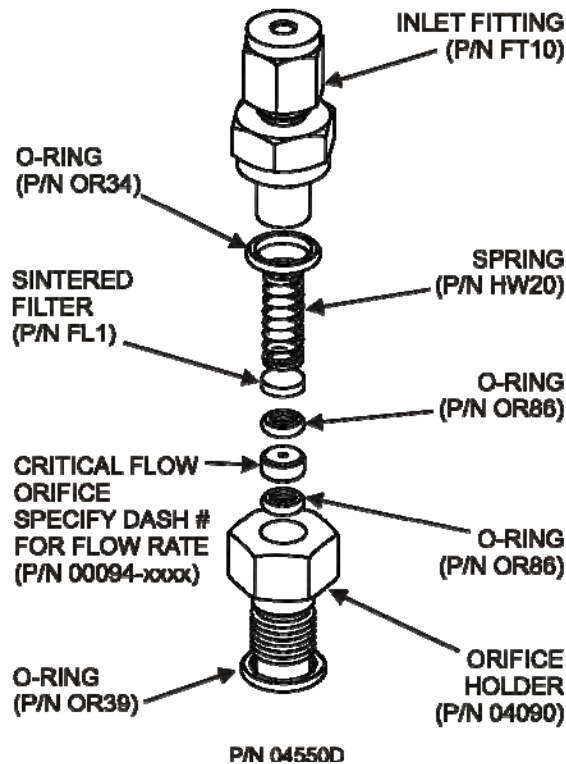

Figure 13-7: Critical Flow Orifice Assembly
- This part holds all components of the critical flow assembly as shown in Figure 13-7.
5. For orifices in the vacuum manifold: the assembly is similar to the one shown in Figure 13-7, except: